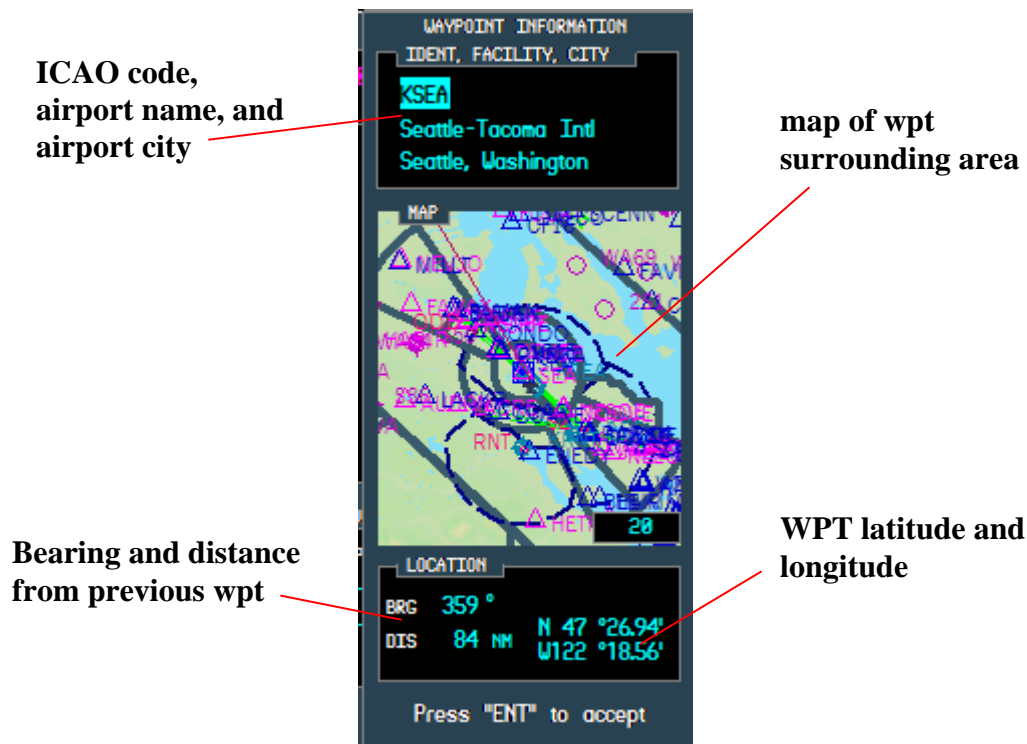

Figure 7.5
- 2.1 click on the right small FMS knob to display the Waypoint Information window (Figure 7.5).
3.1 click on the right small FMS knob to display the Waypoint Information window (Figure 7.5).